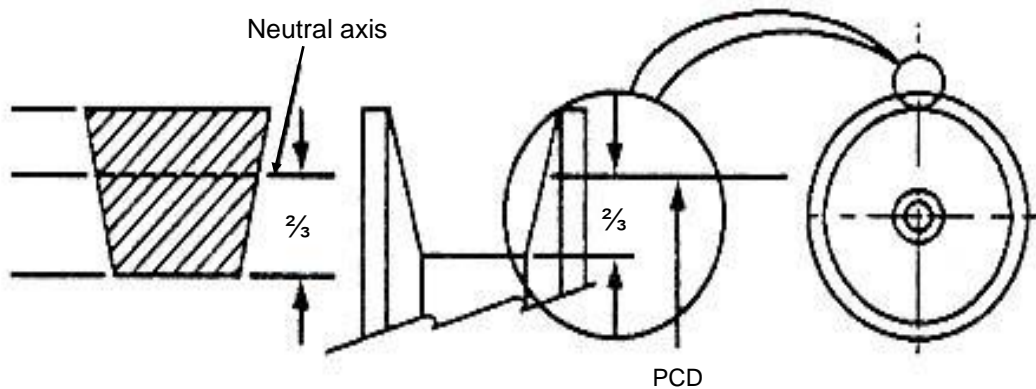

FIG 4.
A. The length of a V-belt is normally stated as the length along its neutral axis, which is located approximately two thirds of the distance from the bottom of the V-belt. (Fig 4)
This is necessary because the neutral axis of the V-belt must line up with the pitch circle diameter (PCD) of the pulley grooves i.e. the V-belt required is larger than the distance measured for it. (Fig 4)